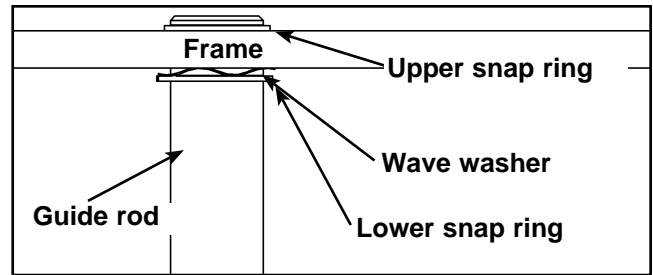

Figure 10
- C. Using an external snap ring pliers, remove the upper snap ring from one of the guide rods and carefully lower the guide rod. See Figure 10.